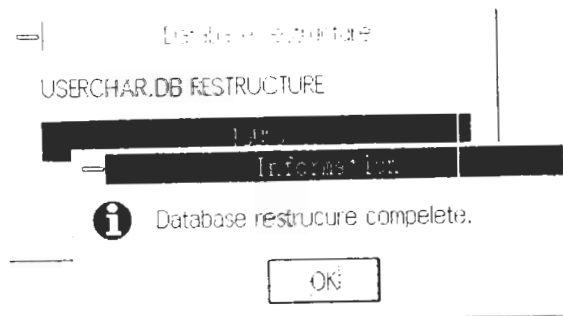

Figure 10-3
- (3) By clicking the "OK" button, data restructuring starts. After restructuring is completed, "Database restructure complete" is displayed. See Figure 10-3.
- (4) This operation minimizes the data base file.